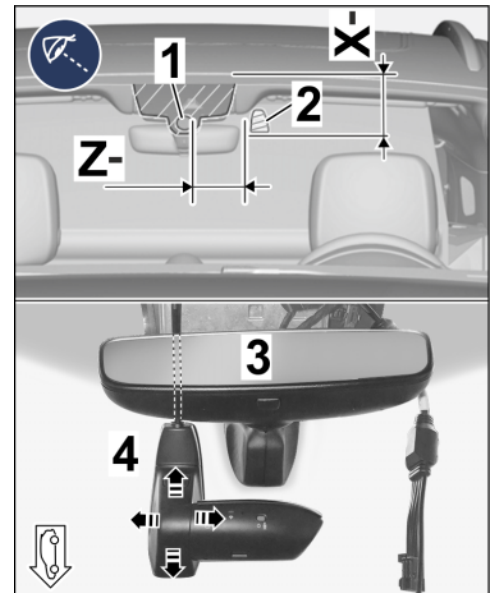

Figure 8
2.1.3 Copy dimensions X- and Z- on outside of windshield according to country/market. ⇒ *Figure 8-Top-*
2.1.4 Position front camera with mounting plate in the vehicle at the marking on the windshield. ⇒ *Figure 8 -Arrow-*